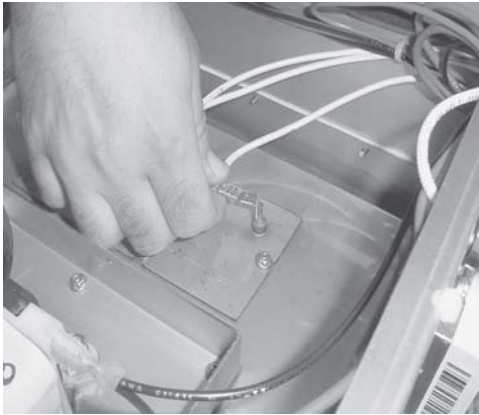

Figure 3-30
2. Unplug the wires to the heater and high limit. Figure 3-30.